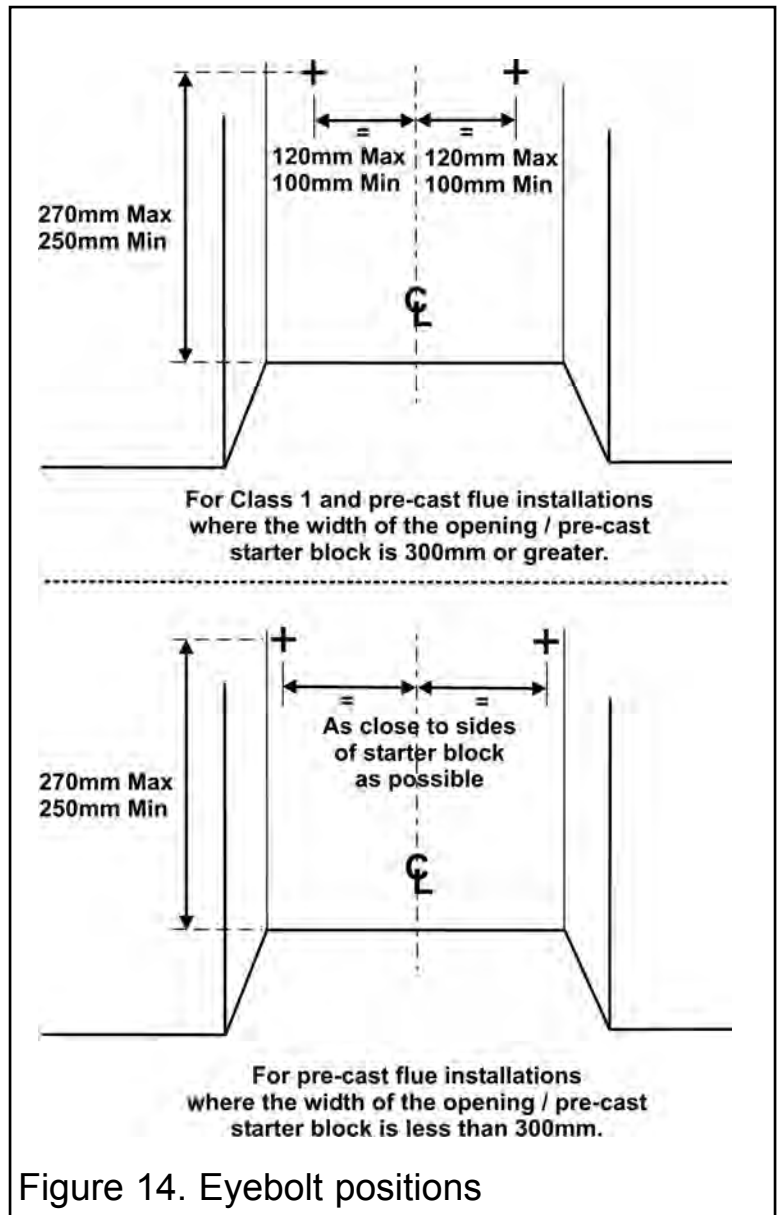

Figure 14. Eyebolt positions
2. Drill two holes in the rear wall of the fireplace for the eyebolt plugs. The holes should be drilled within the range of positions shown in figure 14 using a suitably sized masonry drill for the fibre plugs supplied. The holes should be equidistant each side of the centre line of the fireplace to ensure that the appliance finishes centrally in the opening when tension is applied to the cables.